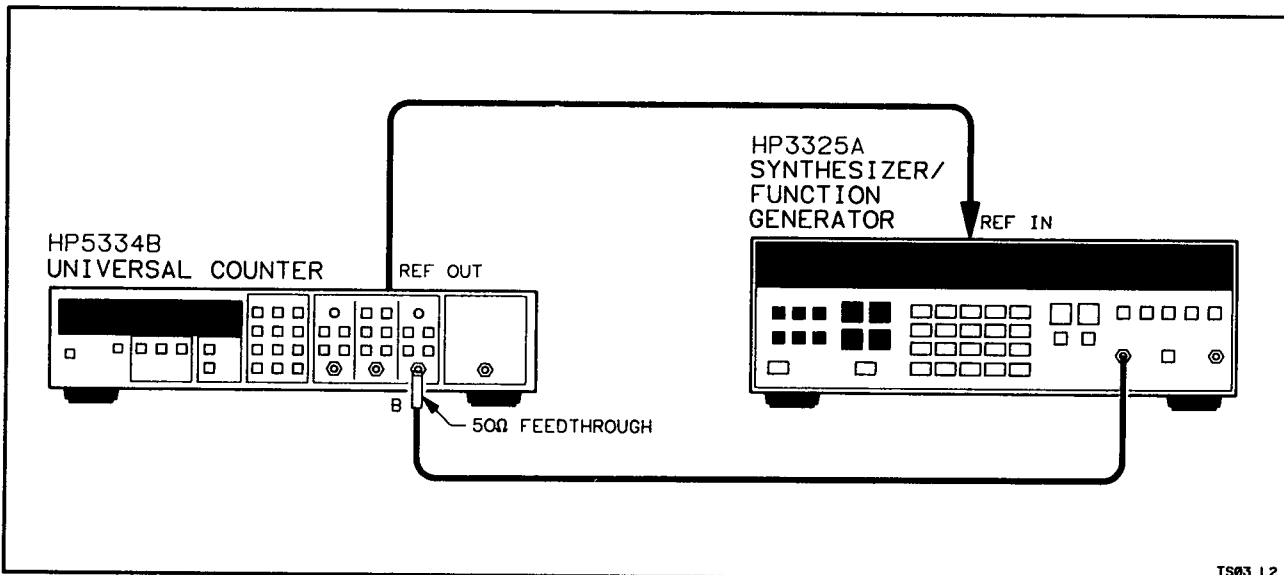

Figure 4-3. Channel B Frequency and Sensitivity Setup,
3. Connect the function generator signal to the HP 5334B Input B using a 50 Ohm feedthrough connector as shown in *Figure 4-3*.